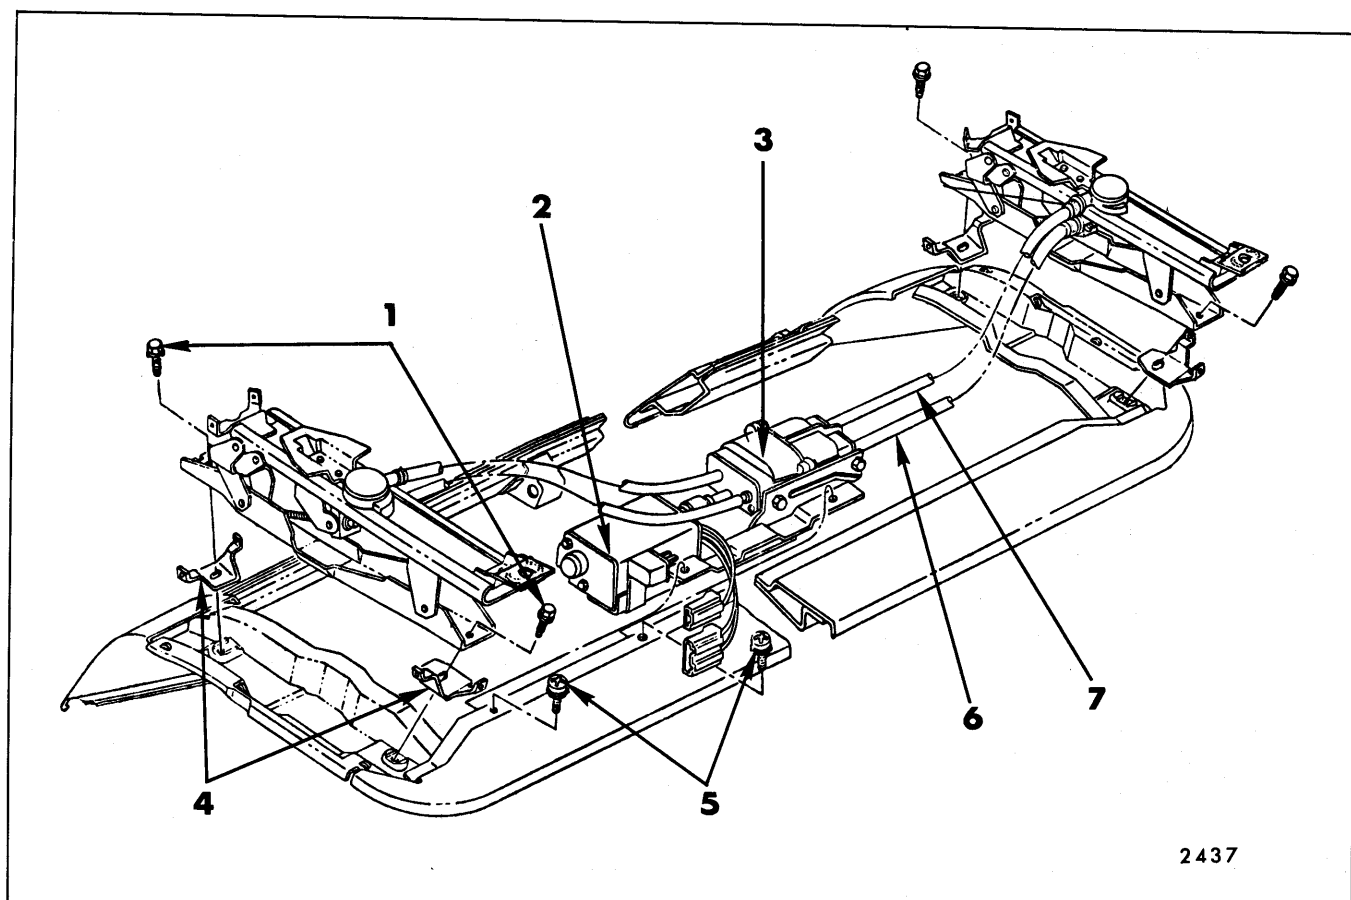

Fig. 15-7—Front Seat Assembly - Four-Way Tilt - "A" Styles
5. To install seat adjuster assembly, reverse removal procedure. On seats with adjuster upper track covers, make sure track covers are installed between adjuster and seat frame (Figs. 15-7, 15-13 and 15-16). Check operation of seat adjusters and make sure adjusters are "in phase" before installing assembly into body (See Step 6 under "Front Seat Assembly - Removal and Installation").
3. Remove screws securing motor and transmission support to seat bottom frame (See Fig. 15-7).
2. Remove seat adjuster-to-seat bottom frame front and rear attaching bolts on side affected (Fig. 15-7).
3. Remove screws securing horizontal and vertical cable end plate on side of transmission from which cables are being removed and remove cables from seat assembly (Fig. 15-7).